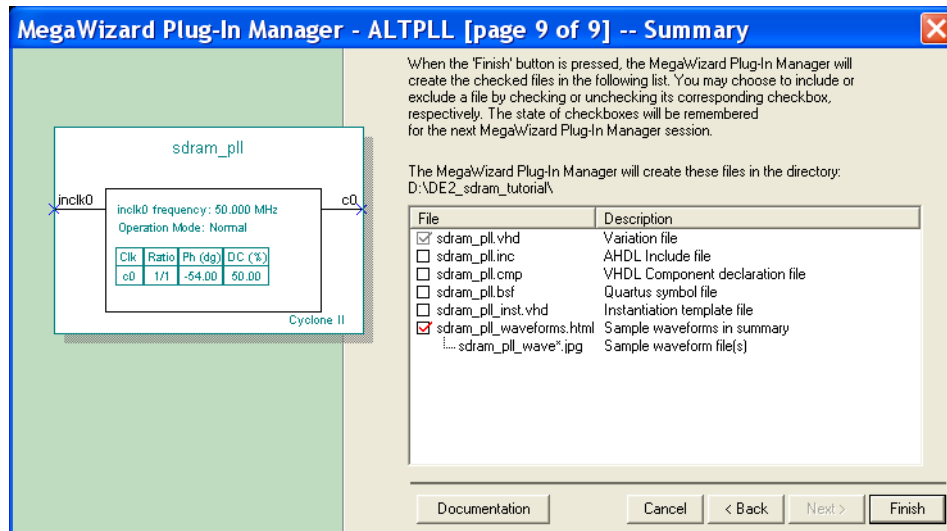

Figure 15. The summary page.
- In the summary window in Figure 15 click **Finish** to complete the process.